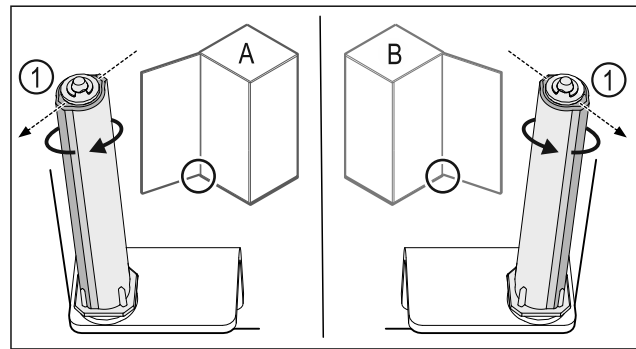

Fig. 44 Left stop (A) / right stop (B)
- Turn the locking system against the resistance until the bar on the locking system Fig. 44 (1) is pointing outwards.